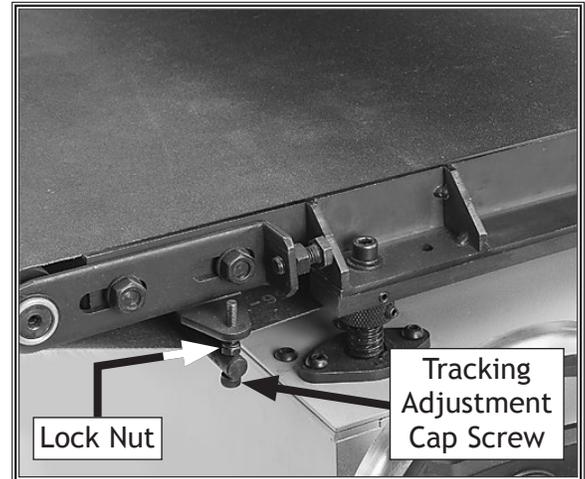

Figure 35. Conveyor fine tracking controls.
3. Loosen lock nut (see **Figure 35**) on side that conveyor belt tracks towards and tension tracking adjustment screw until conveyor belt tracks in opposite direction.